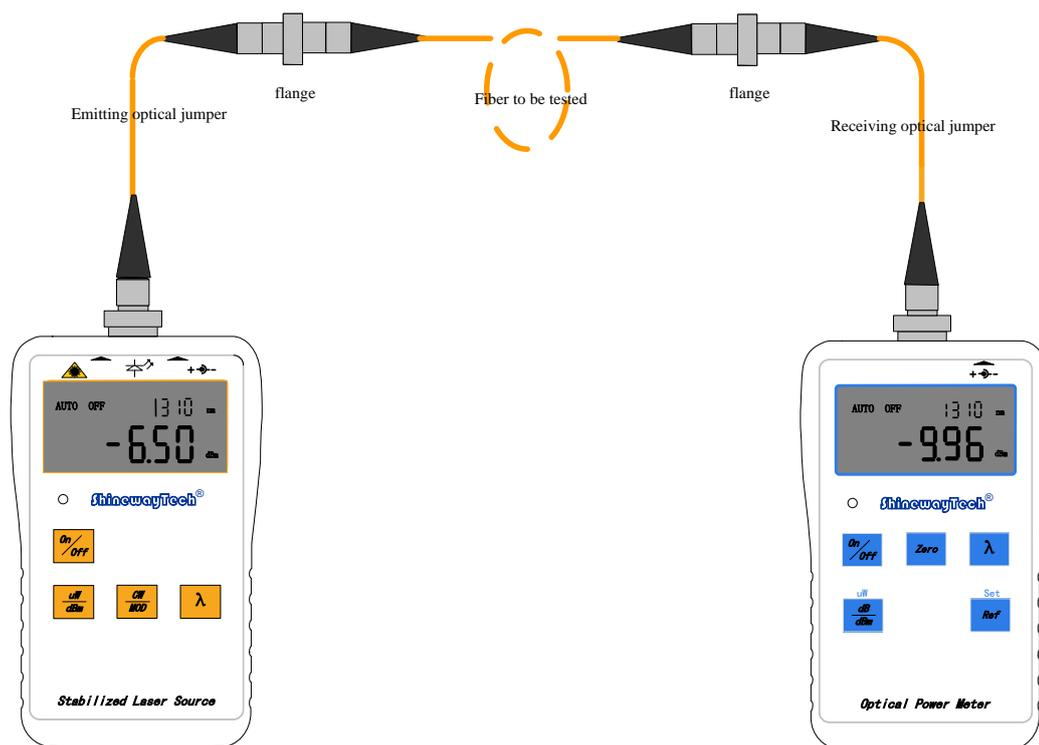

FIGURE26. OPTIC FIBER LOSS TESTING
3. Connect both ends of optic fiber to be tested with laser source and power meter through optical jumper, as in Figure26.